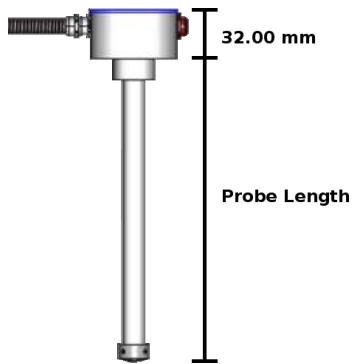

Figure 13: Calculating Probe Length
- Determine the exact length of Capvel-FUEL probe. Measure the indicated part as per Figure 13. Remember, the probe length calculation must include the insulation bush fit at the bottom of the probe.